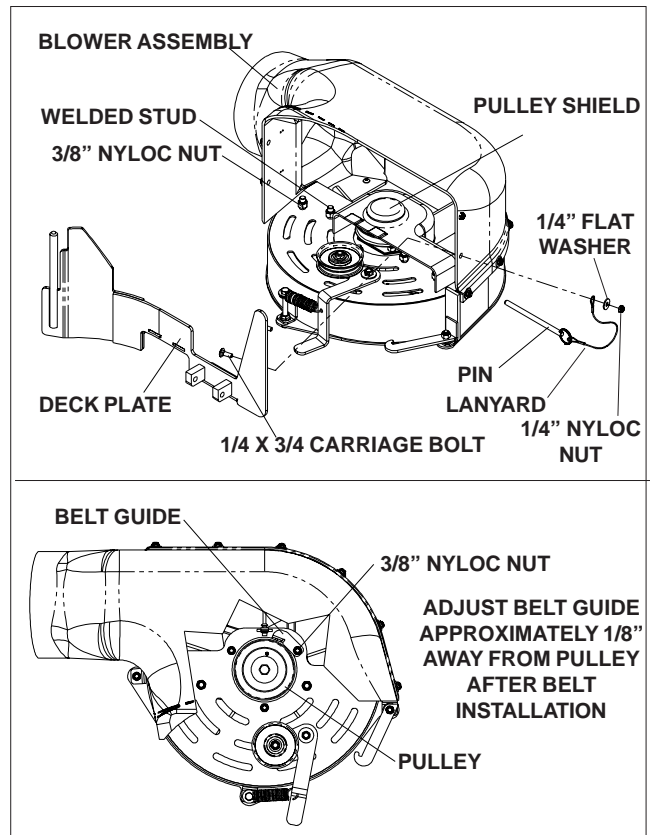

FIGURE 1
9. Using the 5/32" allen wrench, remove the 111229, 1/4 x 5/8 screw on the pulley shield. Figure 1.
11. Place the belt guide approximately 1/8" away from the pulley and re-tighten the nut. Figure 1.
14. Remove the (4) 1/4 x 3/4 carriage bolts from the deck plate, and the (4) 3/8" nyloc nuts from the inside of the blower housing. Figure 1.
15. Place the deck plate on the welded studs in the blower housing. Install and tighten the (4) 3/8" nyloc nuts that were just removed. Figure 1.
16. Install the (4) 990074, 1/4 x 3/4 carriage bolts thru the square holes in the deck plate from the inside out.
17. Place the (4) 990598, 1/4 flat washers and (4) 108120, 1/4" nyloc nuts on the carriage bolts. The lanyard must be placed on the top front carriage bolt between the flat washer and the blower housing. Tighten the nuts. Figure 1.